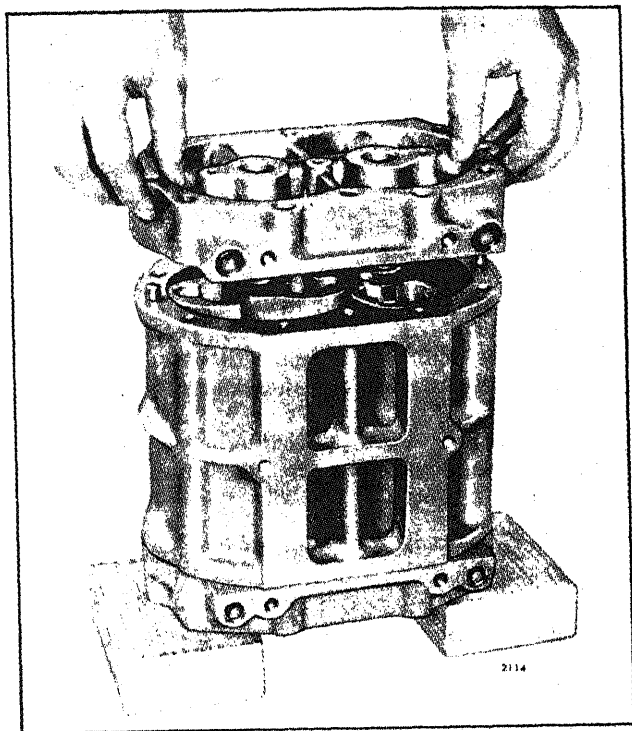

Fig. 12 · Installing Rear End Plate
5. Place the rear end plate over the rotor shaft (Fig. 12). On the former blowers, be sure that the lip type oil seals are properly positioned on the rotors. Then secure each end plate to the 3-53 blower housing with two end plate retaining screws and two